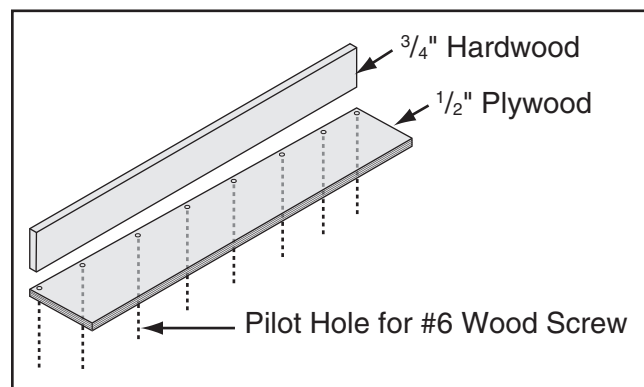

Figure 105. Location of pilot holes.
2. Pre-drill and countersink eight pilot holes $\frac{3}{8}$ " in from the edge of the 6" wide board, as shown in **Figure 105**, for the wood screws that will attach the boards together in next step.